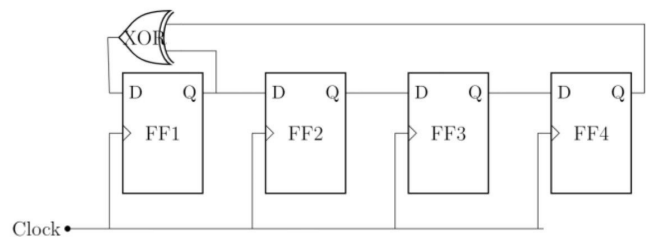

Fig. 3. Circuit connections
- 4) Then, connect the XOR gate (7486 IC) to the system of D-Flip flops as shown in figure 3